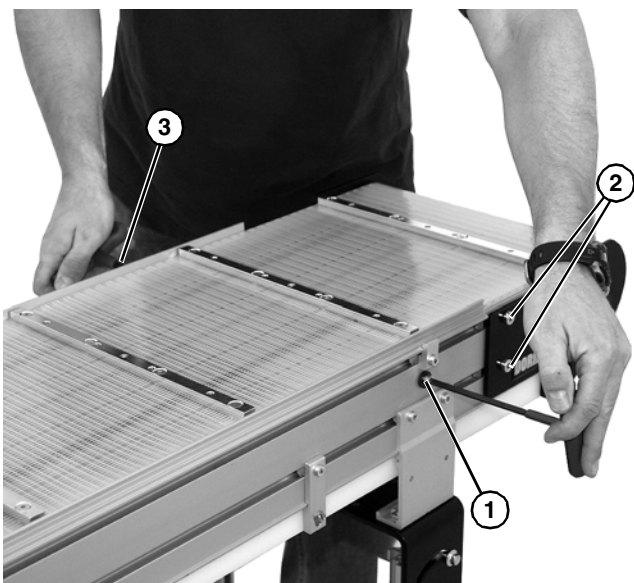

Figure 26
1. On tension end of the conveyor, identified by the pinion locking screw (**Figure 26, item 1**), loosen the two tail clamp bolts (**Figure 26, item 2**), on both sides of conveyor.
3. With 5mm hex wrench, hold pinion torque screw (**Figure 26, item 3**). Loosen the pinion locking screw (**Figure 26, item 1**) and turn the pinion torque screw (**Figure 26, item 3**) to extend head plate assembly.
5. After adjusting proper tensioning, tighten the pinion locking screw (**Figure 26, item 1**) to 69 in-lbs (7.8 Nm), and tighten tail clamp bolts (**Figure 26, item 2**) on both sides of conveyor to 146 in-lb (16.5 Nm).